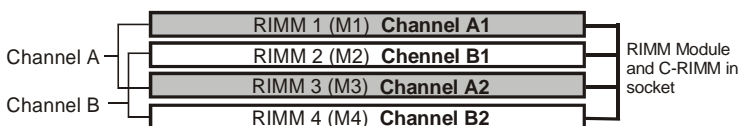
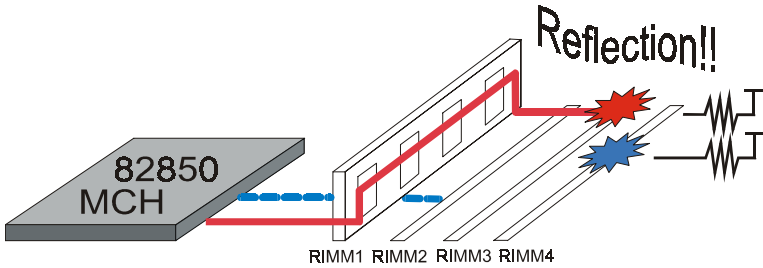
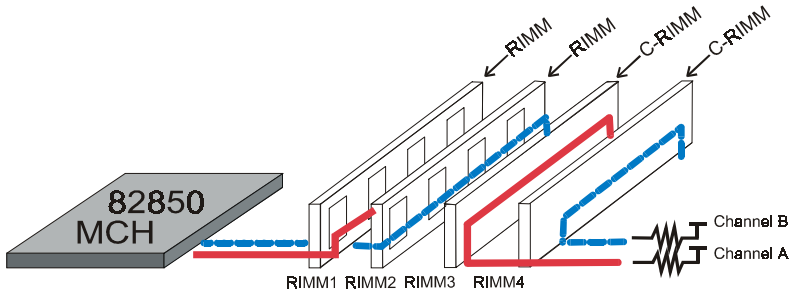

Figure 7
Figure 9: Wrong Configuration
Figure 11-1: Right Base Configuration
The board supports two channels (4) 184-pin RIMMs (Rambus Interface Memory Module) as shown in Figure 7. The RIMMs can be RIMM and C-RIMM (Continuity RIMM) only. RIMM modules have Rambus channel signals as their memory interface. A RIMM module may contain up to a maximum of 16 RDRAM devices. All RDRAM devices on a RIMM must have the same timing characteristics. Empty RIMM sockets must be populated with continuity modules (C-RIMM). These modules have no memory on them and are used to propagate the channel to the next RIMM socket. Figure 9, 10, 11 & 12 provide a general diagram of a RIMM module and installations of RIMM/C-RIMM modules. **The board must be populated 4 RIMM modules at the same time, that will boot-up the system.**
- The board supports a maximum of 32 devices on a RDRAM channel. A Channel is defined as the two RIMM Slots on the motherboard added together. Thus the motherboard has two channel. See Figure 7 for two channel RDRAM interconnections.
This section describes some basic RIMM/C-RIMM installations as described in table 2. Note that continuity Modules are required in empty sockets. Figure 11-1, 11-2 and 12 display common installations including examples of incorrect (see figure 9, 10-1, 10-2). RIMM or RDRAM signals are daisy-chained through each device on RIMM and memory module.